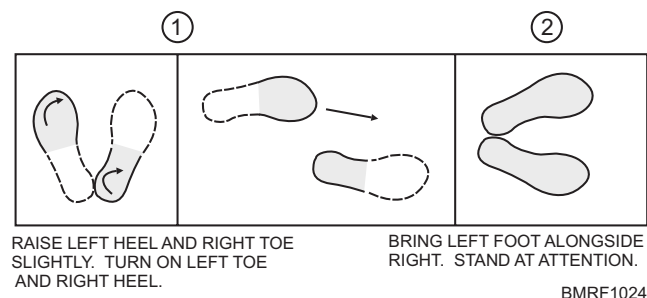

Figure 10-24.—Right Face.
RIGHT FACE. Right face (fig. 10-24) is a two-count movement started on the commands Right FACE. On the command FACE, (1) raise your left heel and right toe slightly and turn 90° to the right. Keep your left leg straight but not stiff; (2) bring your left heel smartly alongside the right heel and stand at attention.